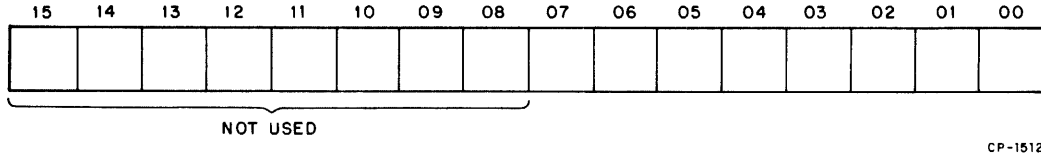

Figure 3-4 RXDB Format (RX11)
3.2.2.3 **RXDB – RX Data Buffer** (Figure 3-4) – All information transferred to and from the floppy media passes through this register and is addressable only under the protocol of the function in progress (Paragraph 3.3).